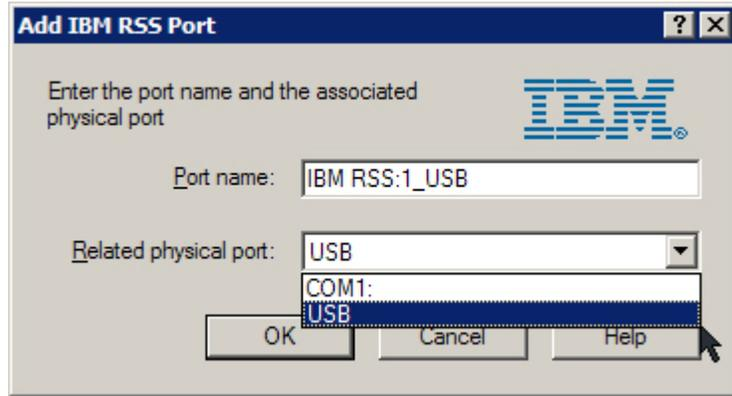

Figure 9. Adding a new port
- Click **New RSS Port**. The Add IBM RSS Port window opens (see Figure 9 on page 9).
7. From the Related physical port list, select **USB** (see Figure 9).
8. Specify the port name that you want to use; then click **OK** (see Figure 9).